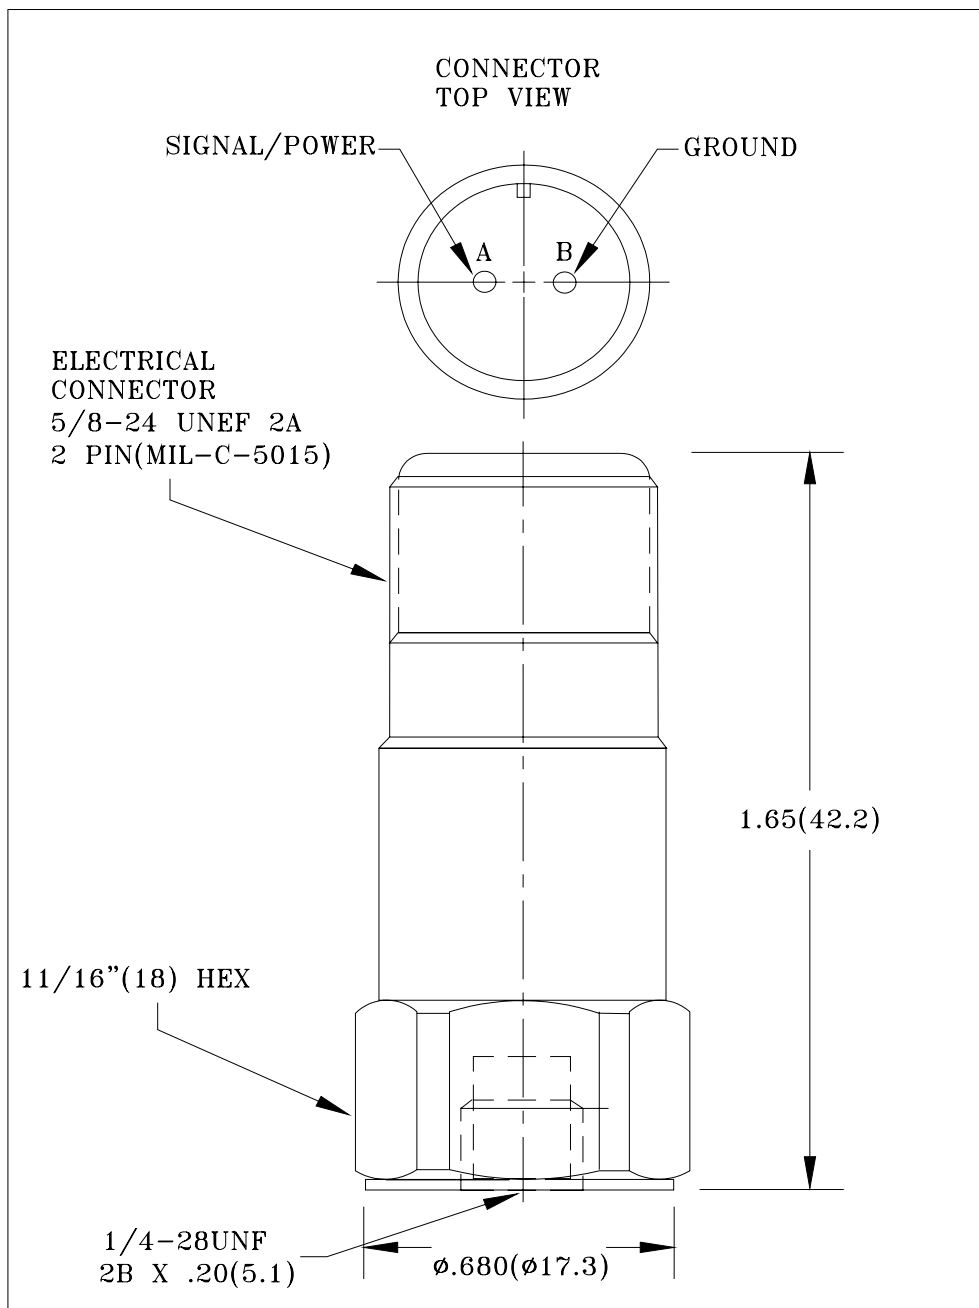

Figure 2
- Accelerometer mounting dimensions (Figure 2)